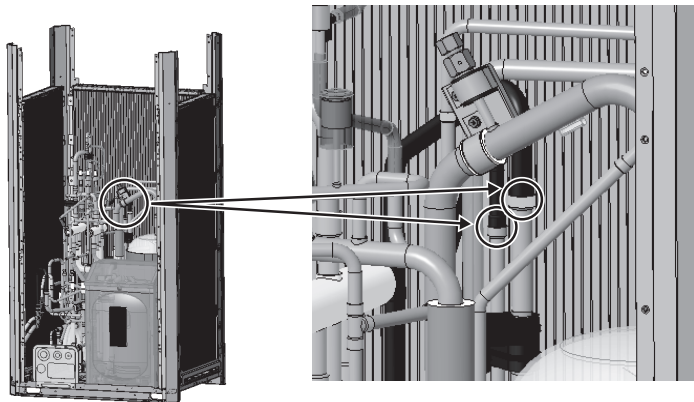

Fig. 23 Brazing point of the rear heat exchanger piping
(1) Remove the brazing from the piping. (Two areas to remove brazing: Fig. 23)